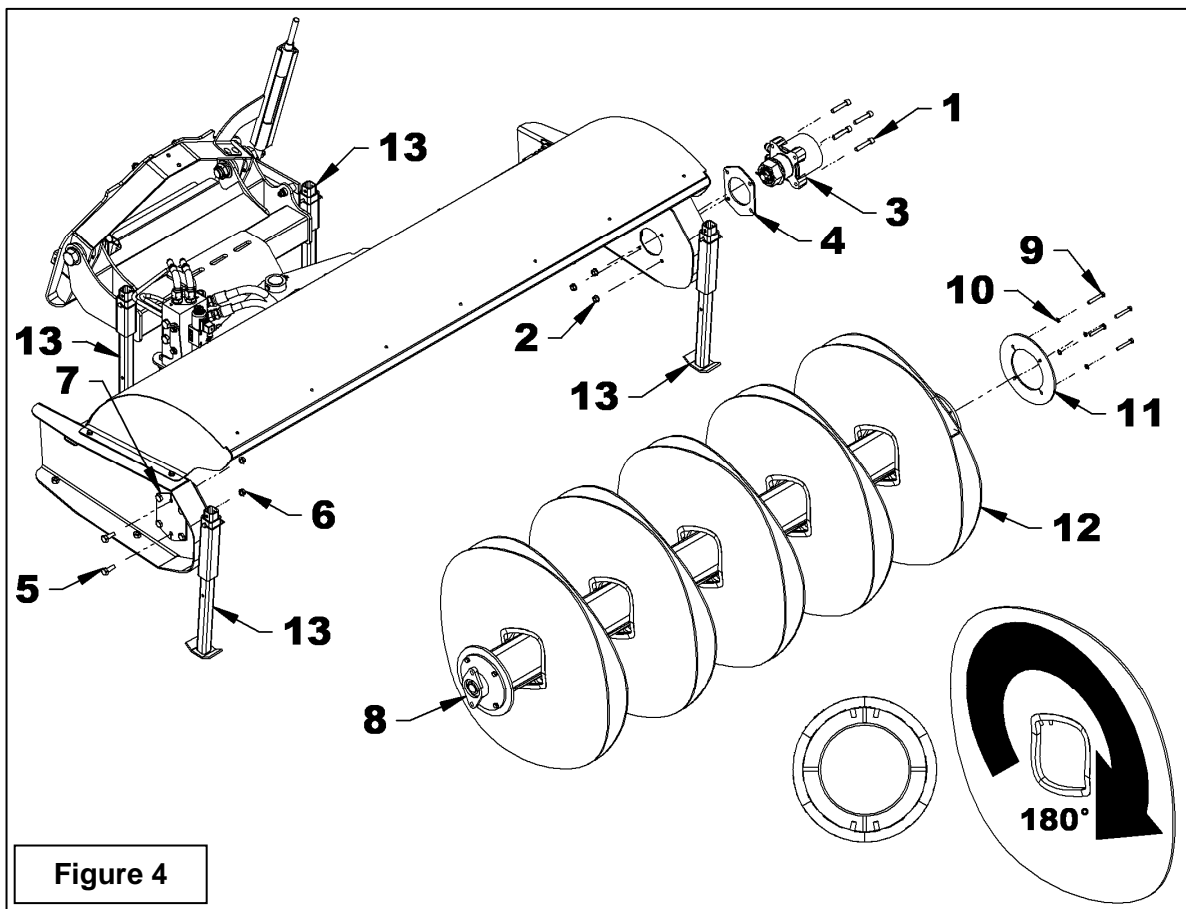

Figure 4
(Figure 4)
10. Install the new brushes (item 12) on the brush support (item 8) by aligning the guides on each side of one of the brush support tubes and rotating each brush 180° (see figure 4).
11. Shake the brushes (item 12) before installing the retaining plate (item 11) to compress them.
12. Reinstall the retaining plate (item 11) and secure in place with the four 3/8" NC x 2 1/2" hex. bolts and the four lockwashers (items 9-10). There should be no gap between the brushes once the retaining plate is installed.
13. Place the brush support (item 8) under the broom cover.